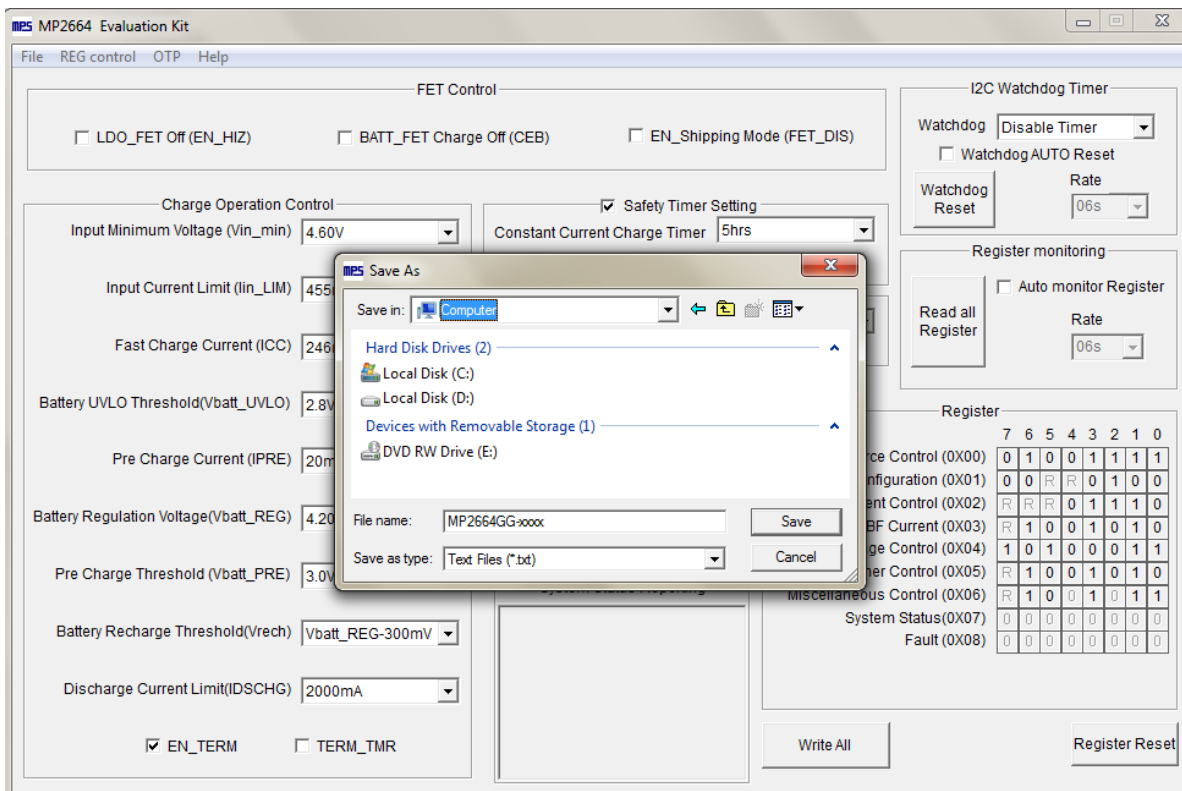

Figure 11: Various Export Locations Available
- Find a location for the exported file and click “Save.” Your configurations will be saved in a text file (See Figure 11).